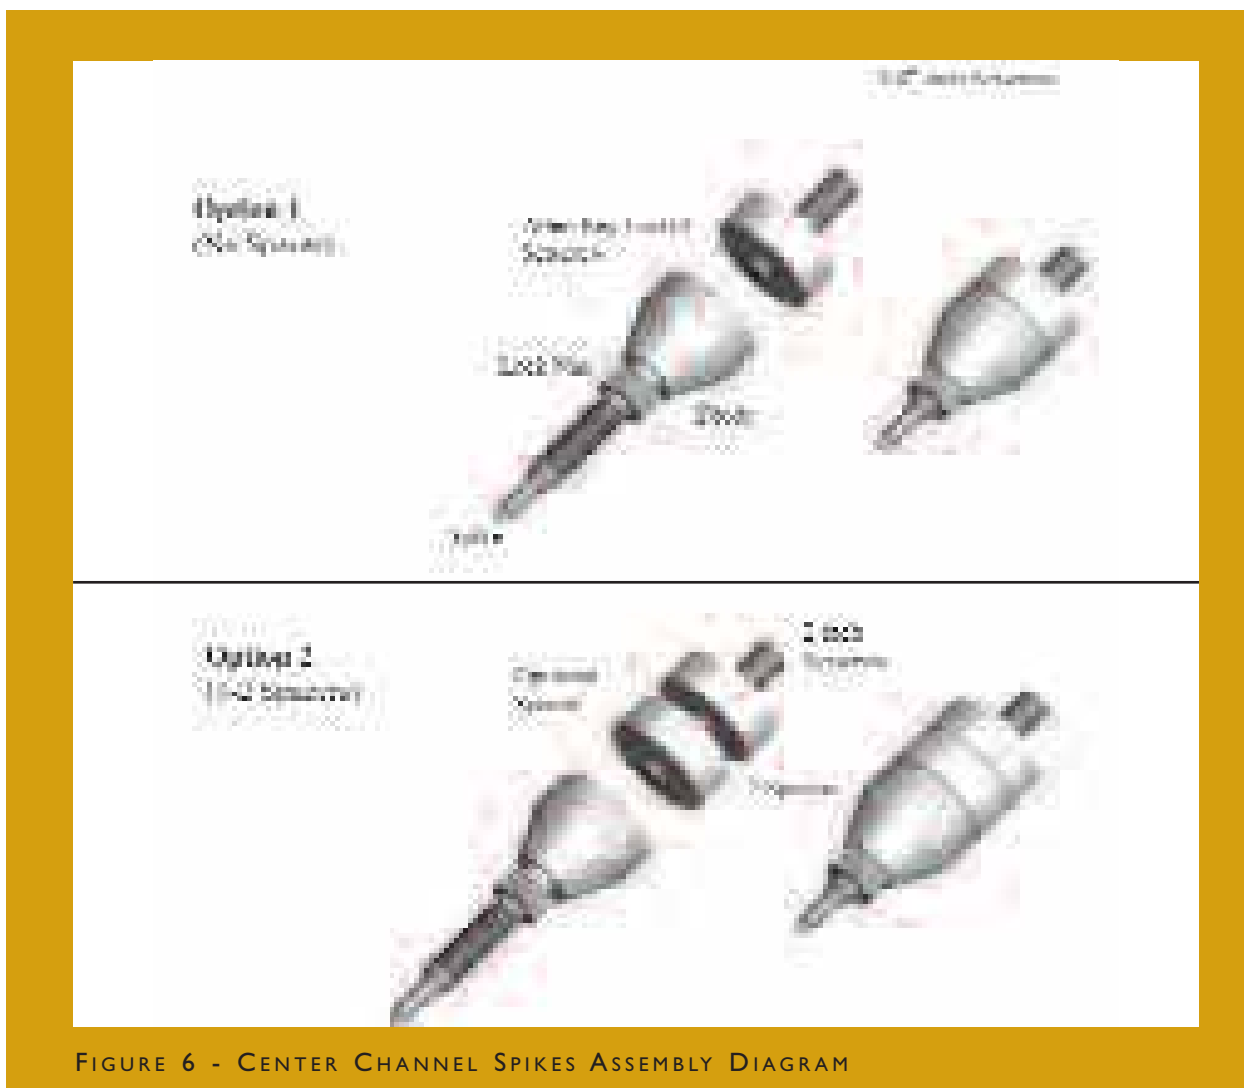
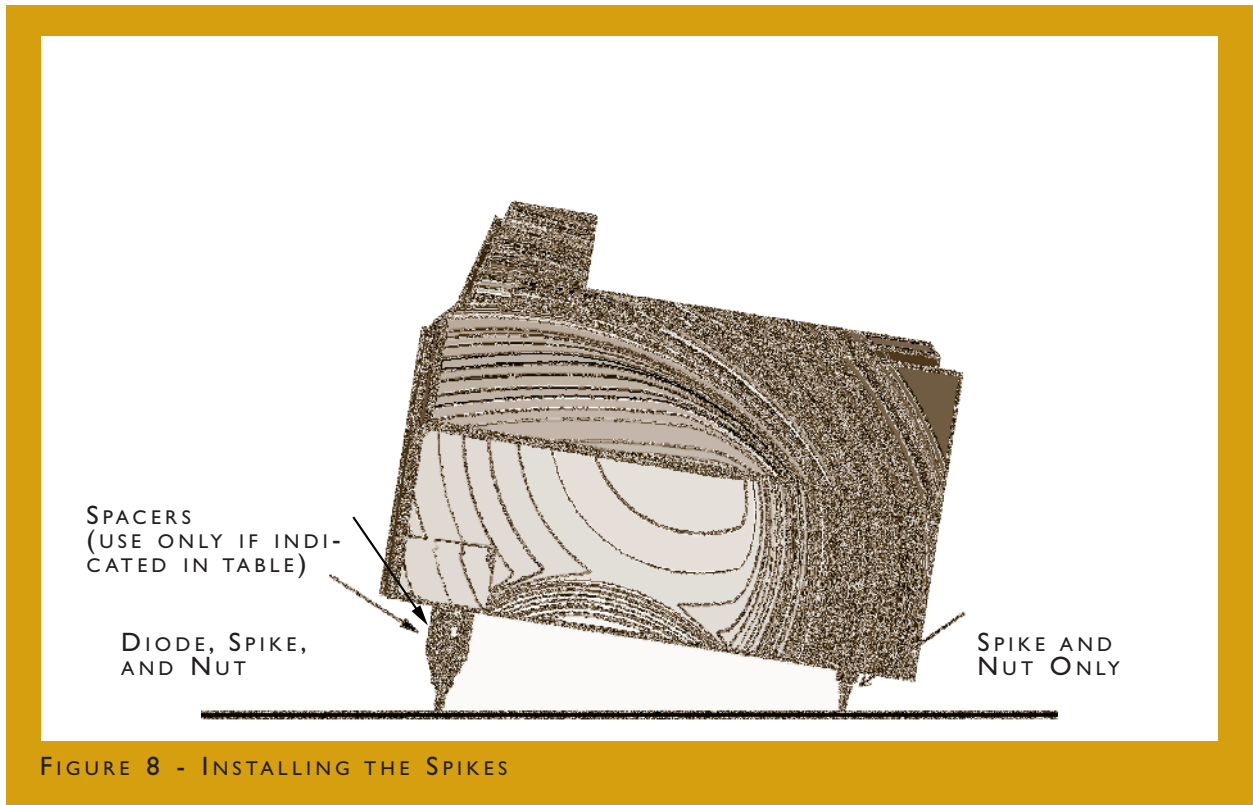

FIGURE 6 - CENTER CHANNEL SPIKES ASSEMBLY DIAGRAM
FIGURE 8 - INSTALLING THE SPIKES
1. Insert either the short or the long threaded bolt, depending on the desired height (see Figure 6) as far as it will go into the hole in the bottom of the Center channel. Make sure the Allen key end is accessible.
The floor mounted Center channel must be rotated up toward the listening position. This is done by using a taller spike in the front than in the back of the speaker (see Figure 8). The default rotation is set by using a combination of a spike, a lock nut, and an acoustical diode. If required, additional rotation can be achieved by using the provided 1/2" spacers between the diode and the bottom of the cabinet (see Figure 6, page 49). The amount of rotation depends on your listening position.
4. Install the spikes as shown in Figure 8 above.